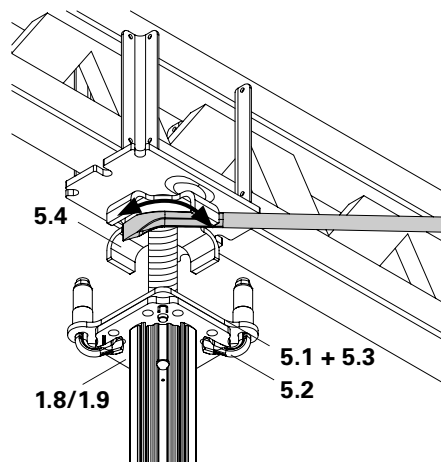

Fig. A2.16
3. Spindle Tilting Forkhead MKK with rotary wings (5.4) to size. Max. spindle extension: 100 mm. (Fig. A2.16)